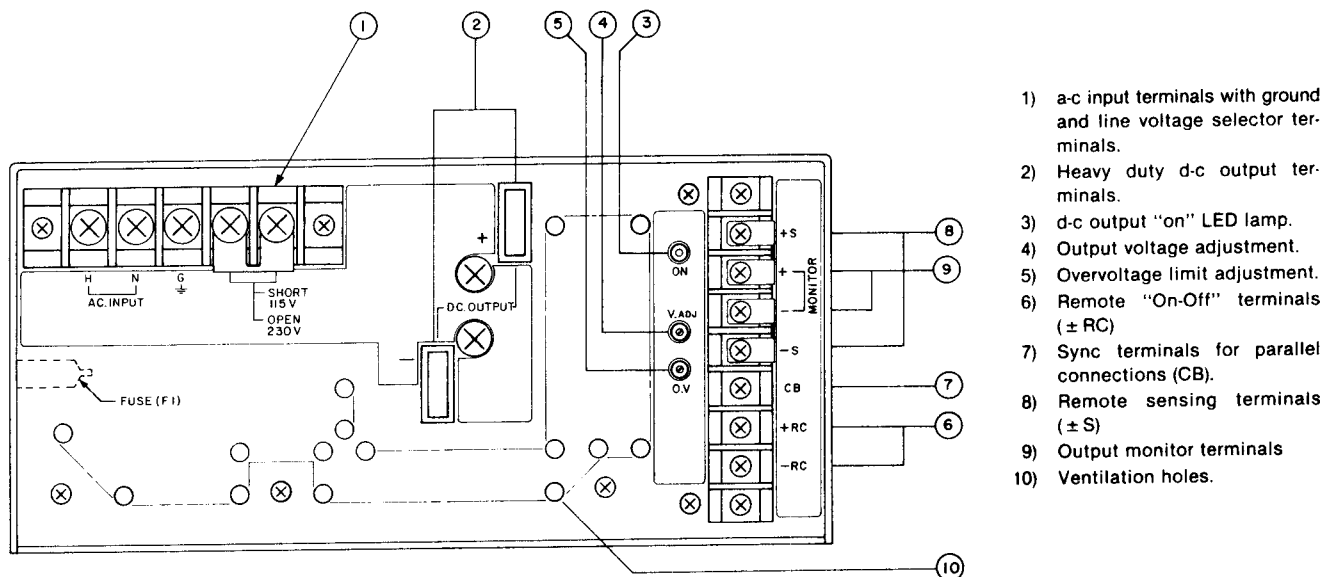

FIG. 2-1 TERMINATIONS REAR, RBX SERIES POWER SUPPLY.
2-5 **TERMINATIONS:** Refer to FIG. 2-1
- 2-7 The RBX power supply may be operated from 115V a-c nominal (85-132V a-c) or from 230V a-c nominal (170-264V a-c), 50 or 60 Hz nominal (47-440 Hz), single phase power lines. The power supply is normally delivered for service on 115V a-c lines and can be reconfigured for 230V a-c service by removing the jumper shown on FIG. 2-1, item (1). Maximum a-c input current at nominal output power for the RBX Series is given in paragraph 1-7.
2-10 PRELIMINARY ELECTRICAL CHECK (Refer to FIG. 2-1)